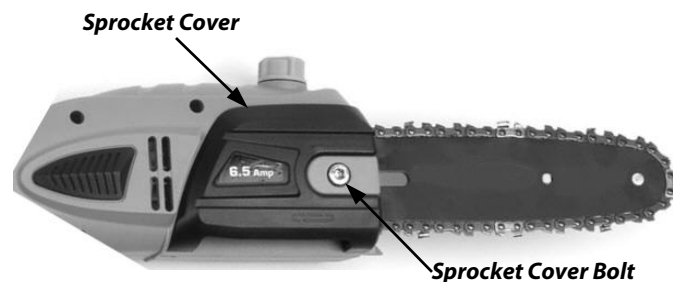

Figure 4
8. Install the Sprocket Cover Bolt by hand and leave the Bar free to move for tension adjustment (**Figure 4**).
10. Tighten the Sprocket Cover Bolt using the 7/32" Hex Key Wrench (**Figure 4**).